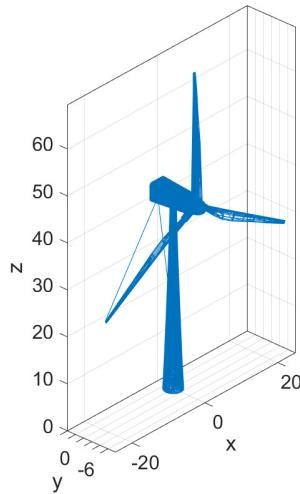

Figure 9: Inspection of wind turbine.
- The MAV can start with arbitrary initial condition. The path should be generated in a way that the camera footprint inspect the structure depicted in Figure 9. You must run “windturbine.m” file to access to the wind turbine structure.